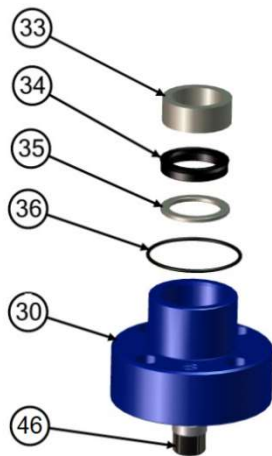
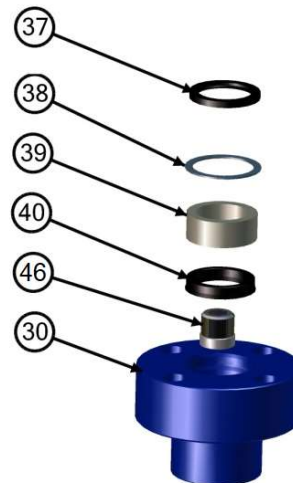

FIGURE 14
FIGURE 15
- 2) Set the stuffing box (30) (**FIGURE 14**) with the stop bolt (46) to the bottom.
- 3) Slide the o-ring (36) over the stuffing box so it rests against the flange.
- 4) Install the back-up ring (35) into the stuffing box, so that it sits on the shoulder. 4" valves do not require a back-up ring.
- 5) Install the first polypak (34) against the back-up ring with the sealing lips facing upward.
- 6) Press a bearing ring (33) into the stuffing box so it is flush with the end of the stuffing box.
- 7) Turn the stuffing box so the stop bolt (46) is at the top.
- 8) Install the second polypak (40) (**FIGURE 15**), with the sealing lips facing downward, against the shoulder in the bore.
- 9) Press the second bearing ring (39) into the bore so the top is slightly below the retainer ring groove.
- 10) Install the retainer ring (38) into the groove.
- 11) Press the weather seal (37), sealing lips facing downward, into the bore so rests against the retaining ring.